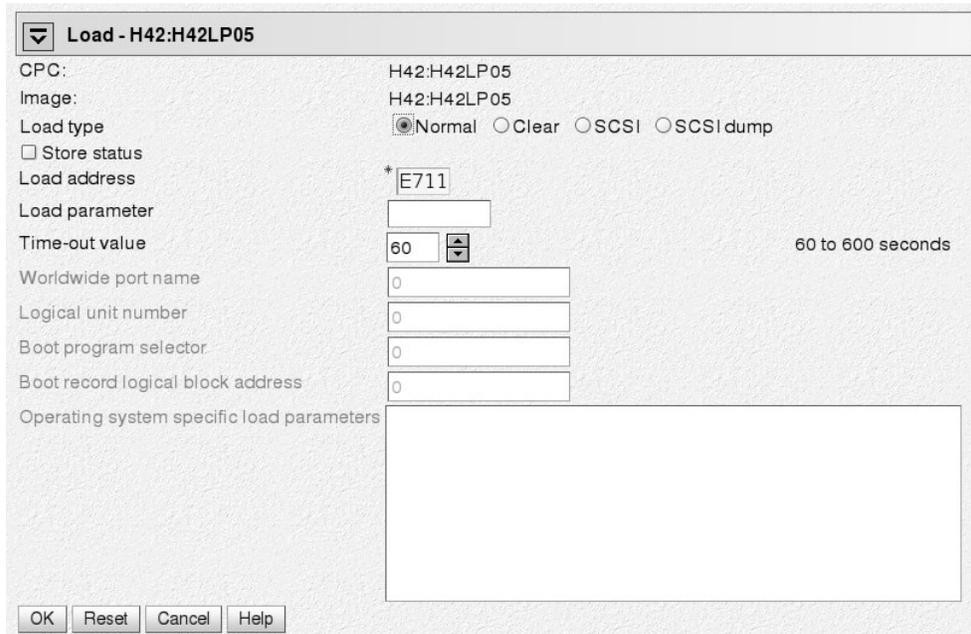

Figure 63. Load panel for booting from tape or DASD
a. Select **Load type** “Normal” (see Figure 63).
- a. Select **Load type** “Normal” (see Figure 63 on page 342).